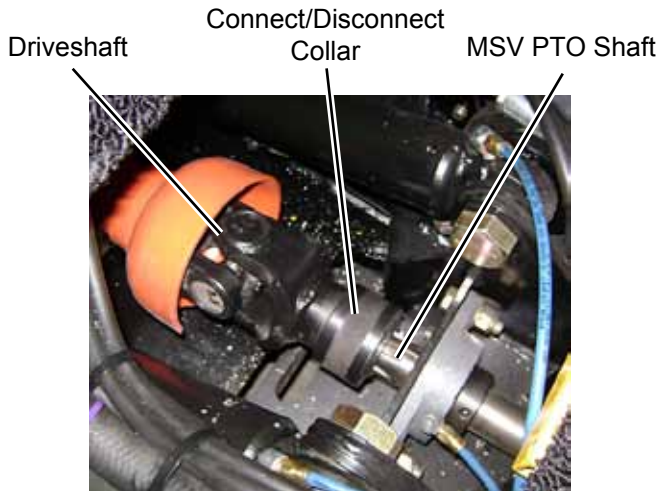

Figure 11
- 12. Pull the driveshaft to lengthen it if necessary and place it over the MSV PTO shaft spline. Pull back on the collar and push the shaft on completely. Release the collar and pull back on the shaft to ensure it is properly secured on PTO shaft (Figure 11).